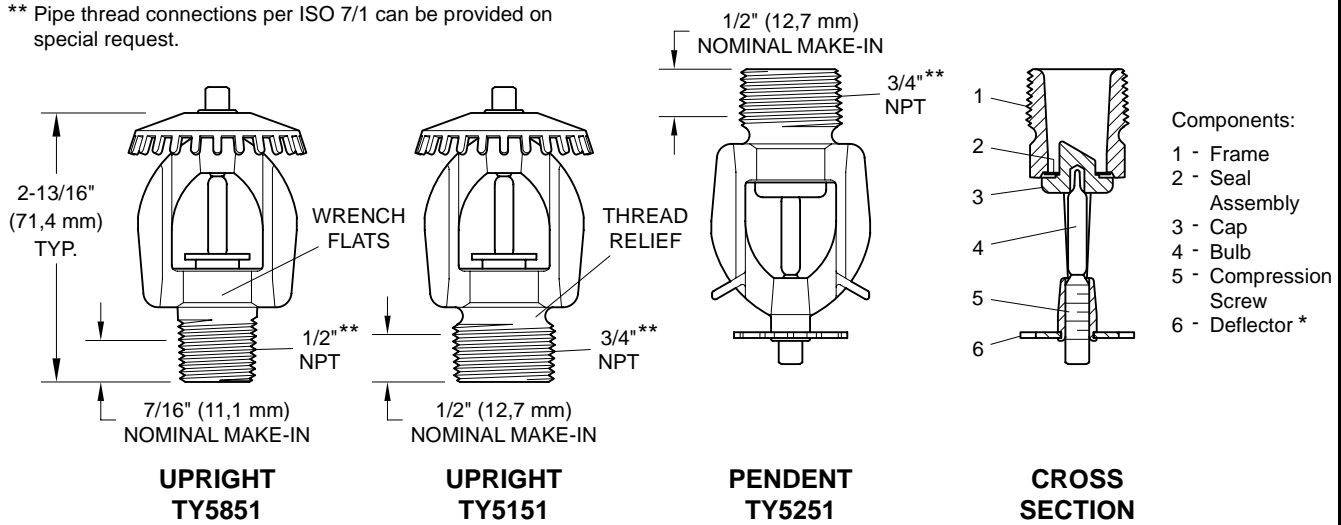

FIGURE 1
The 11.2 K-factor, Series ELO-231B, Standard Response, Standard Coverage, Upright and Pendent Sprinklers (Ref. Figure 1) are automatic sprinklers of the frangible bulb type. They are "standard response - spray sprinklers" that produce a hemispherical water distribution pattern below the deflector.
Step 3. Tighten the sprinkler into the sprinkler fitting using only the W-Type 3 Sprinkler Wrench (Ref. Figure 2), except that an 8 or 10 inch adjustable Crescent wrench is to be used for wax coated sprinklers. With reference to Figure 1, the W-Type 3 Sprinkler Wrench or the adjustable Crescent wrench, as applicable is to be applied to the wrench flats.